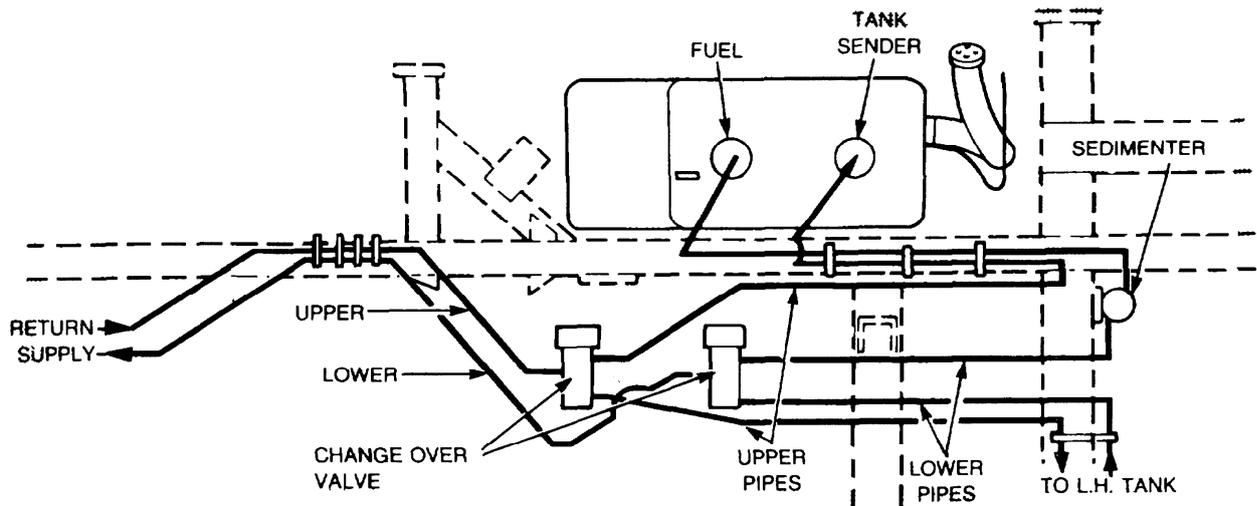

Figure 22 Fuel Lines (Right Side) Removal
- Tag and remove the supply and return lines from the fuel tank sender unit and the pick-up pipe (Figure 22).